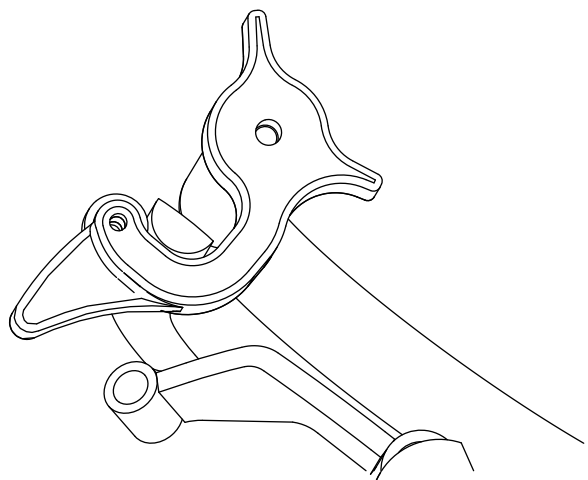

Figure 24
- With rear of machine still on jack stands and engine running at full throttle, disengage the park brake and move the speed control lever to the midway position. Move the respective drive lever upward until it reaches the neutral position and engage neutral lock latches (Figure 24). If the tire rotates in either direction, the length of the drive lever link will need to be adjusted.